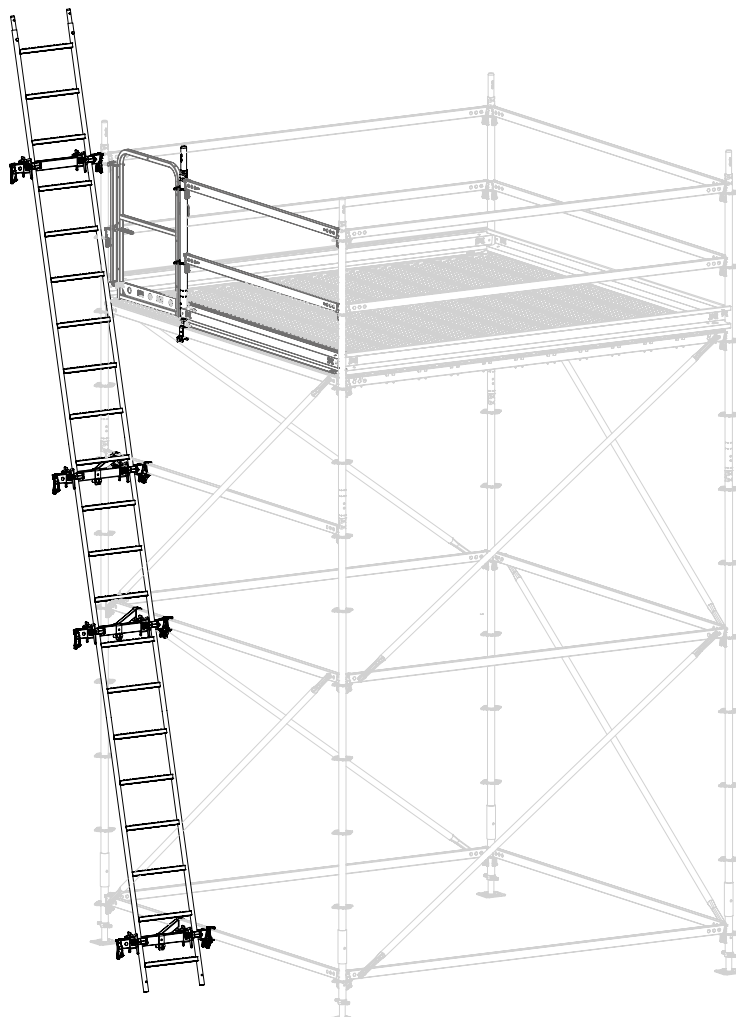

Fig. A9.07a
- Ladder is installed. (Fig. A9.07a)